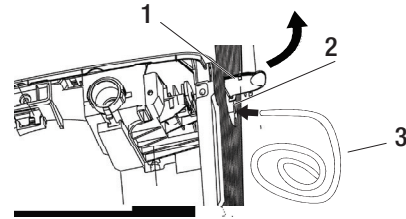

Figure 1
- To connect the drain hose to the unit, uncover the connector cover (1) on the side of the unit, and pass the hose (3) through the side hole (2). (Figure 1)